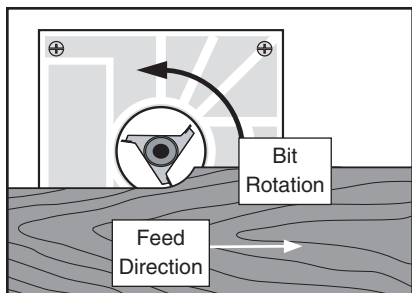

Figure 11. Correct feed direction and grain orientation (bottom view).
1. Examine top face of workpiece and determine direction of grain. Feed router so bit is cutting *with* grain (cutting along growth rings as shown in **Figure 11**). Cutting against grain chips wood rather than cutting it, making a rougher surface with more "chip out."
2. Pass router across workpiece with bit rotating opposite the feed direction, as shown in **Figure 11**. If cutters are moving in same direction you are feeding the router, you are performing a “climb cut.” This is a very dangerous operation because router could lunge forward out of your hands, causing serious personal injury.
4. Smoothly move router in correct feed direction along workpiece (see **Figure 11**).